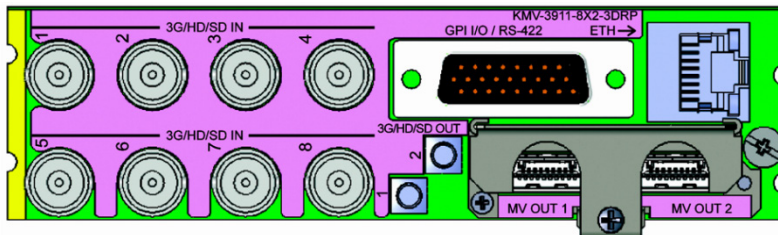
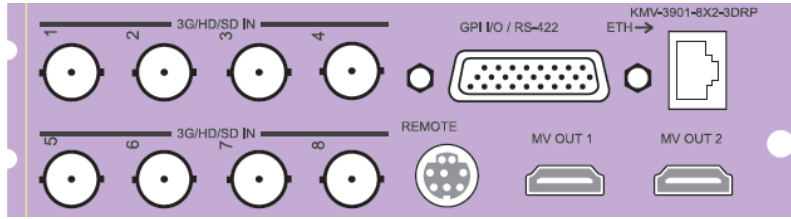

Figure 2.1 KMV-3911-8x2-3DRP Rear Panel
Figure 2.2 KMV-3901-8X2-3DRP Rear Panel
- KMV-3911-8X2-3DRP (see figure 2.1) or KMV-3901-8X2-3DRP (see figure 2.2) rear panel